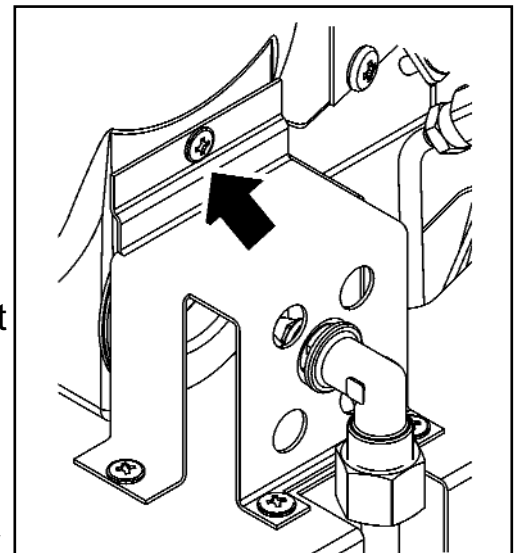

Figure 39. Burner removal
2. Remove the screw that secures the injector bracket to the burner (See figure 39).